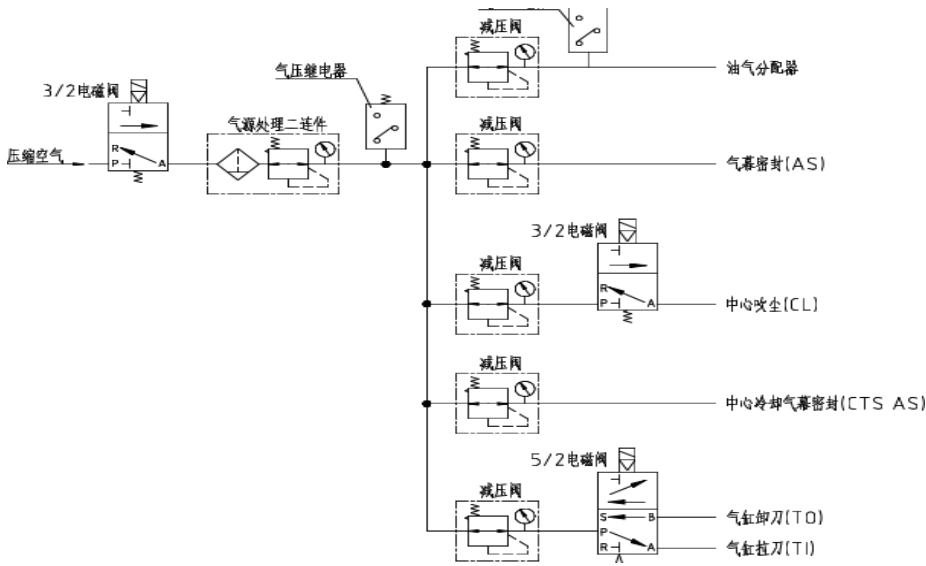

Figure 4-6 Schematic diagram of air system connection
- 3) The pneumatic relay should be connected to the air circuit system according to Figure 4.6 for real-time monitoring to ensure the normal supply of compressed air;
- 5) Figure 4.6 shows all possible configurations of the gas branches of this series. When connecting the air system, connect the air branches according to the actual configuration of your spindle.